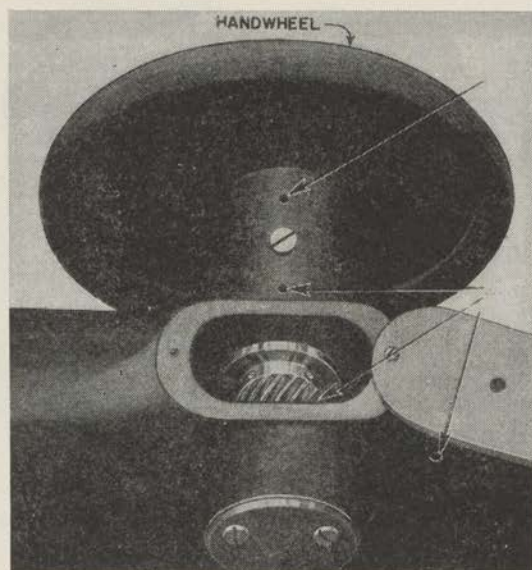

FIGURE 90.—Oiling points at top of long-arm machine.
(3) Figure 90 shows the oiling points back of a handwheel on the long-arm machine. A handwheel is not necessary on a shorter-arm machine.